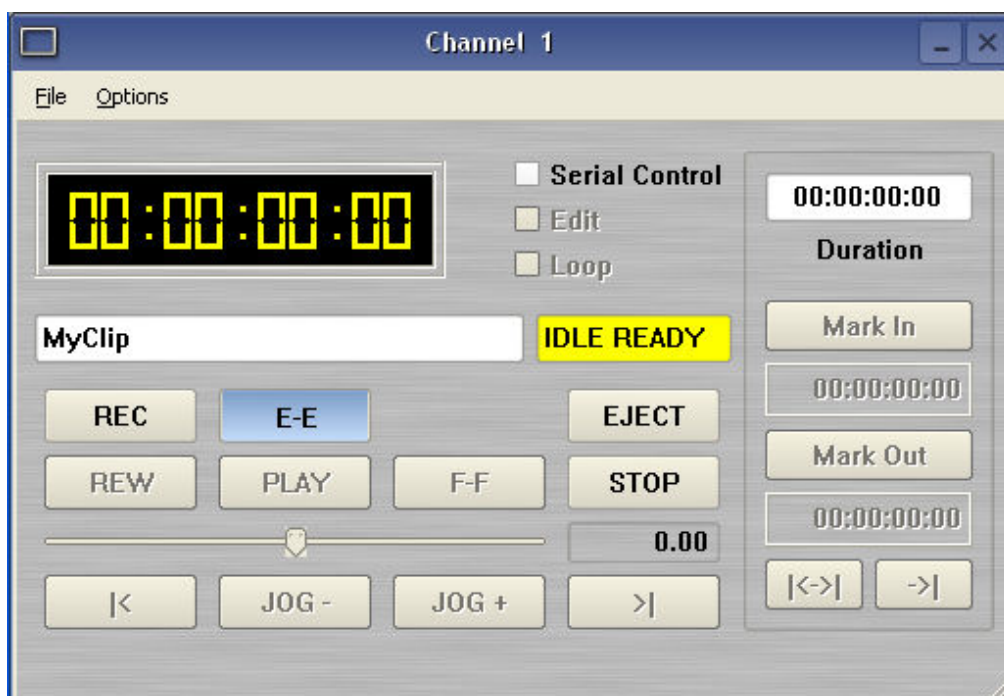

Figure 13 - Channel 1 Ready To Record
- D. The Channel 1 transport Window will display the words **IDLE CUEING** for two seconds or less. When ready to record, the Channel 1 Transport Window will display **IDLE READY** per Figure 13.